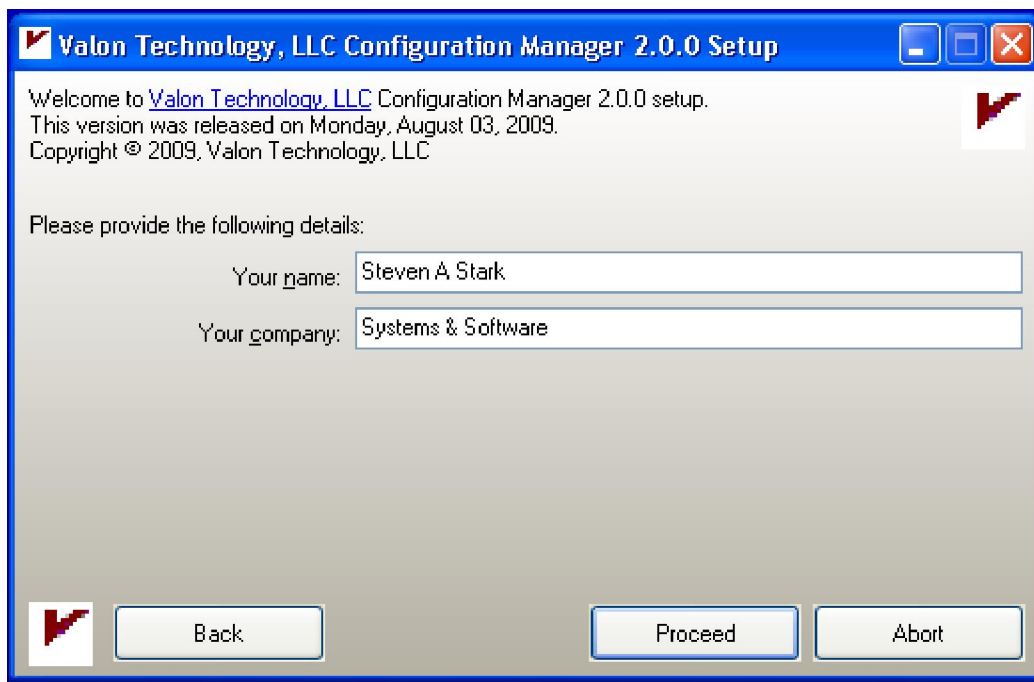

Figure 2-3 Installation Identity Window
- g. The **Installation Identity Window**, as shown in Figure 2-3 on the following page, will be displayed.